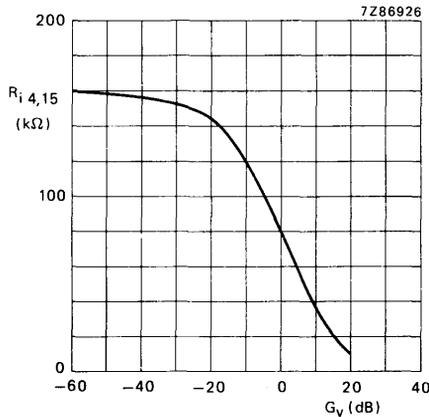

Fig. 4 Input resistance (Ri) as a function of gain of volume control (Gv). Measured in Fig. 1.
1. Equation for input resistance (see also Fig. 4)